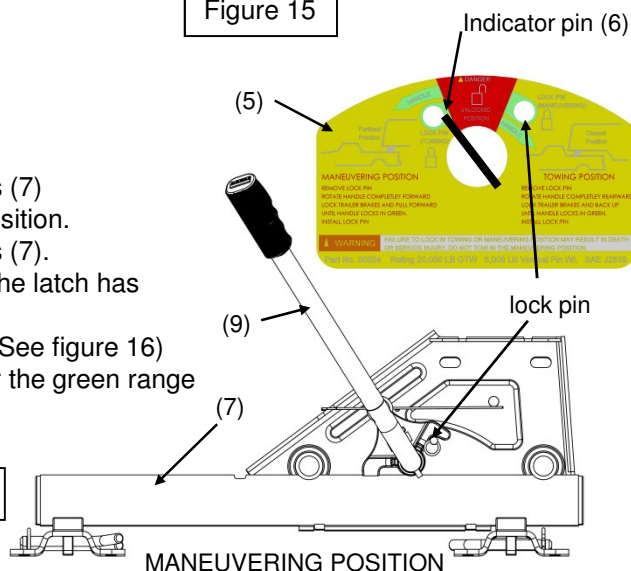

Figure 16
5. Return to truck. Release emergency brake. Manually engage trailer brake and pull truck forward until REESE™ FIFTH Wheel Slider stops and the latches engage in maneuvering position (see Figure 16).
- C. If Slider does not move, latch has engaged tubes (7) and Slider should be engaged in maneuvering position.
- D. If Slider does move, latch has not engaged tubes (7).
- E. Install lock pin completely in maneuvering hole. (See figure 16)
7. Examine warning label (5). Indicator pin (6) should now be over the green range on the left side of the warning label (5) (see Figure 16).